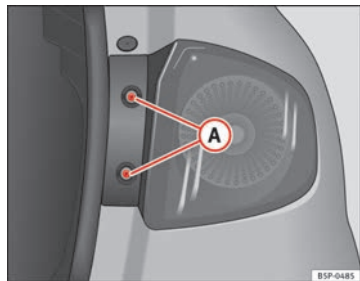

Fig. 196 Side lights and brake lights
- Remove the bolts ⇒ Fig. 196 **A**.